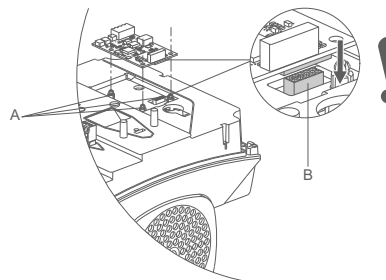

Fig. 17 Fitting the CIM module
4. Fit the CIM module by aligning it with the three plastic holders (fig. 17, A) and the connecting plug (fig. 17, B). Press home the module using your fingers.